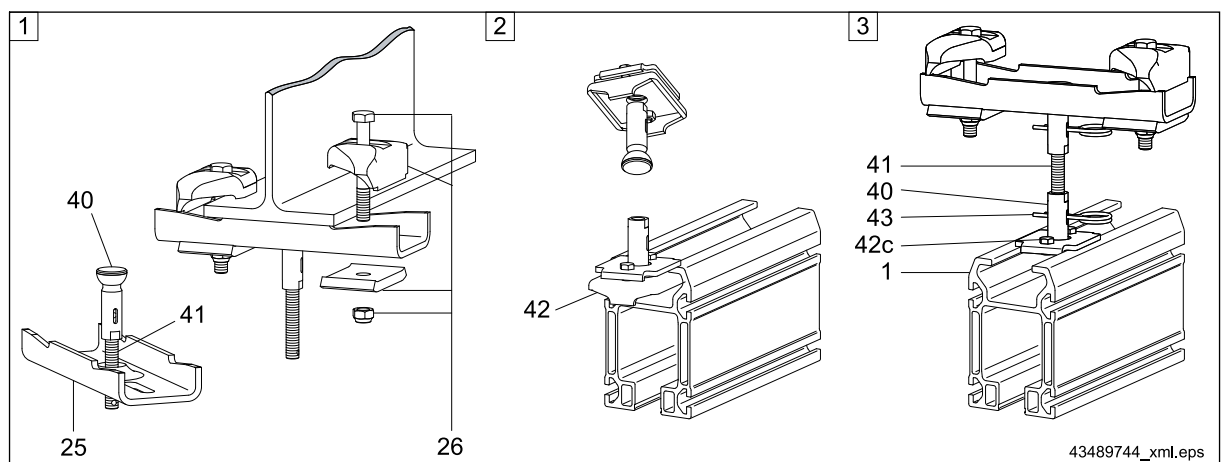

Fig. 5 Assembling track suspensions
Fastening upper suspension bracket (25) with clamps (26) to I-beam flanges ⇒ Fig. 5, Page 29.